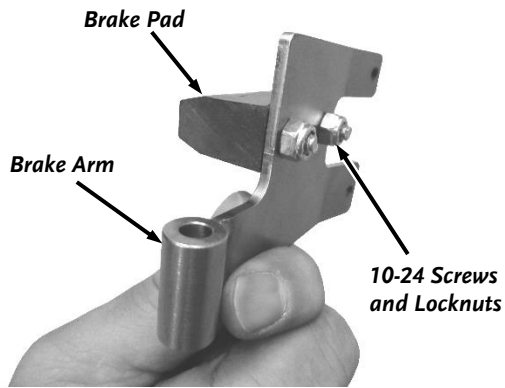

Figure 2
1. Secure the Brake Pad to the Brake Arm with two 10-24 Screws and Locknuts using a Philips Head Screwdriver and a 3/8" Wrench (**Figure 2**).